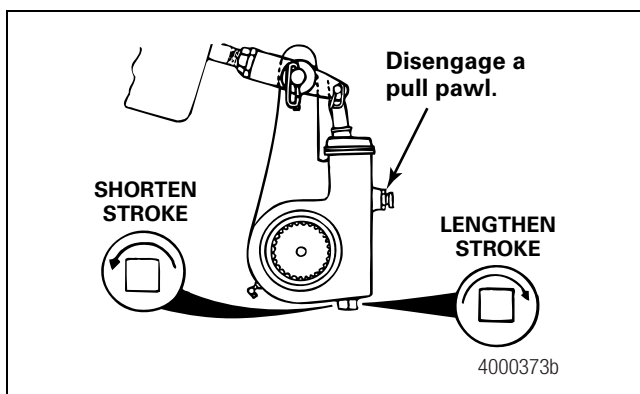

Figure 6.3
- If the free stroke measurement is not within specification:** Turn the adjusting nut 1/8 turn in the direction shown in Figure 6.3 and check the free stroke again. Continue to measure and adjust the stroke until the measurement is within specification.